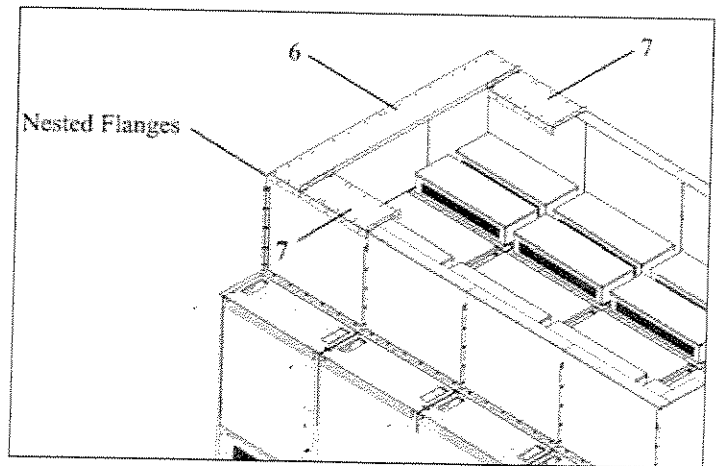

Figure 16. Installing the Arc Exhaust Wall Perimeter Roof Panels.
1. Start at the left side of the switchgear roof (see Figure 16). Place one end roof panel (6) down on the top flanges of the arc exhaust wall. The end edges of the vertical panels nest inside the roof panel flanges as shown in Figure 16.
4. At the front of the switchgear, place an end roof extension panel (7) down on top of the arc exhaust wall and up against the roof panel (6) previously assembled (see Figure 16).
First, insert and tighten the 0.25" self-tapping screws along the vertical flange of (7) and then along the top edge of the panel. Lastly, insert and tighten the 0.25" self-tapping screws in the protruding flanges to secure the end roof panel (6) to the end roof extension panel (7). Repeat this step at the rear of the switchgear as shown in Figure 16.